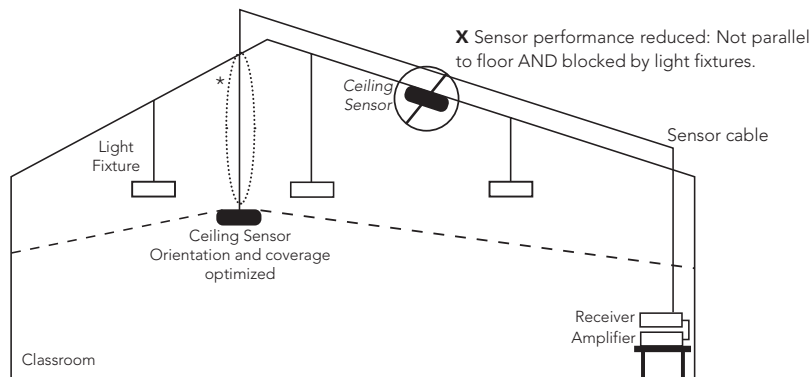

Figure 1: Ceiling Sensor Installation
- The ceiling sensor must have a clear view of the coverage area and must be mounted parallel to the floor to function optimally (figure 1). If drop lights are used in the room, wall sensors may be a better option. Or, a drop mount\* may be used to lower the ceiling sensor.